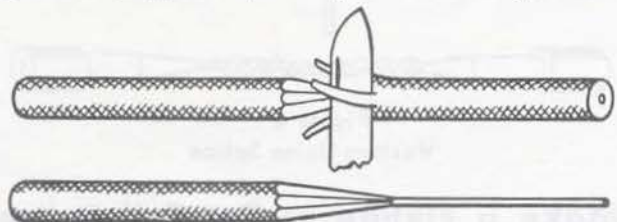

Figure 1
1. Prepare two wires for connections by removing 1/2 inch of insulation from an end of each wire. Remove insulation by making a tapering cut, as when you sharpen a pencil (Figure 1). If you cut straight into
1. With a knife, remove about 4 inches of insulation from the end of two pieces of wire. Cut the insulation as in Figure 1. Scrape or sandpaper exposed wire clean and place them together. Hold the wires securely with a pair of pliers and twist them in opposite directions. Wrap the ends of the wires as tightly as you can so the sharp points won't cut through the tape insulation which you will apply later (Figure 4). The common splice is used when there will be some pull on the wires.
fer to Figure 1). Clean exposed wires. Cross the wires and hold them securely with a pair of pliers and twist together. Loop ends back to prevent a sharp point (Figure 5).